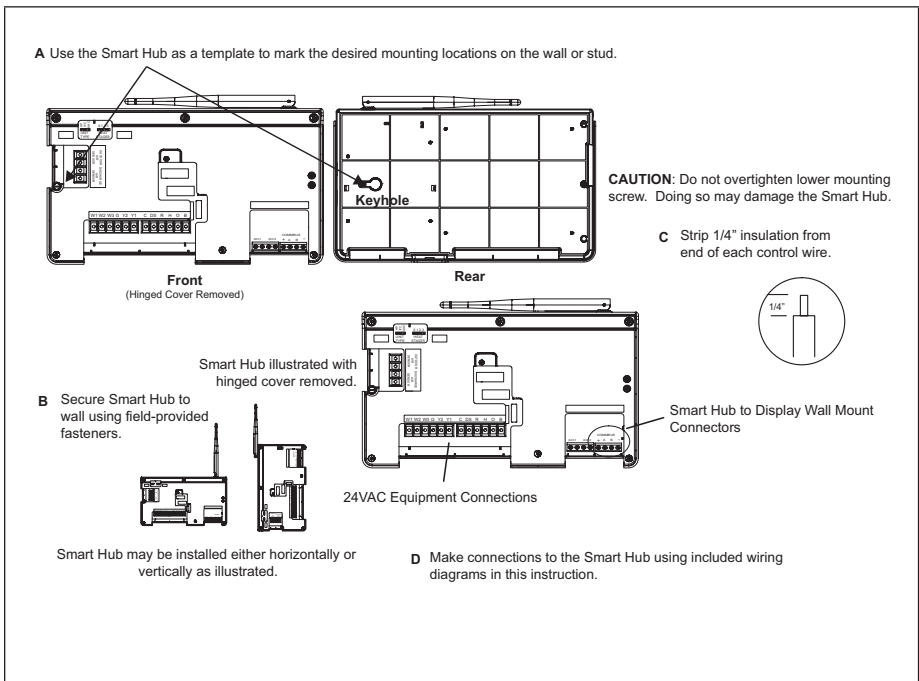

Figure 17. Smart Hub Installation
2. Use the following procedure outlined in “Figure 17. Smart Hub Installation” on page 11.